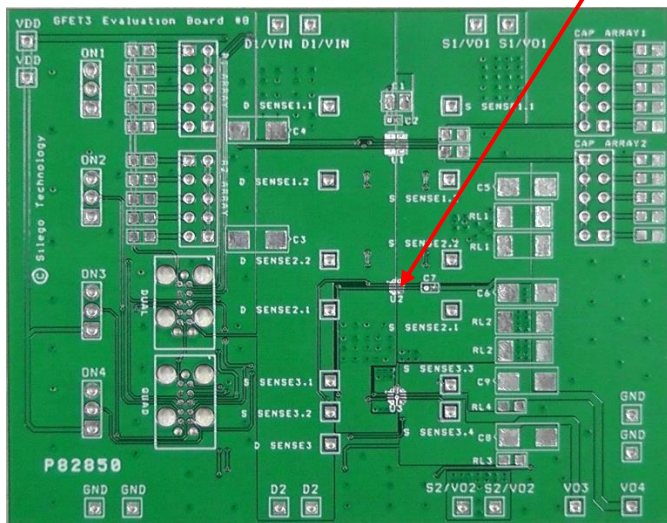

Figure 3. SLG59M1599V Evaluation Test Board
- 2.3. The D and S pins carry significant current. Please note how the D and S pads are placed directly on the power planes in Figure 3, which minimizes the RDS(ON) associated with long, narrow traces. The D and S pins dissipate most of the heat generated during high-load current condition. The layout shown in Figure 3 is illustrating a proper solution for heat to transfer as efficiently as possible out of the device.